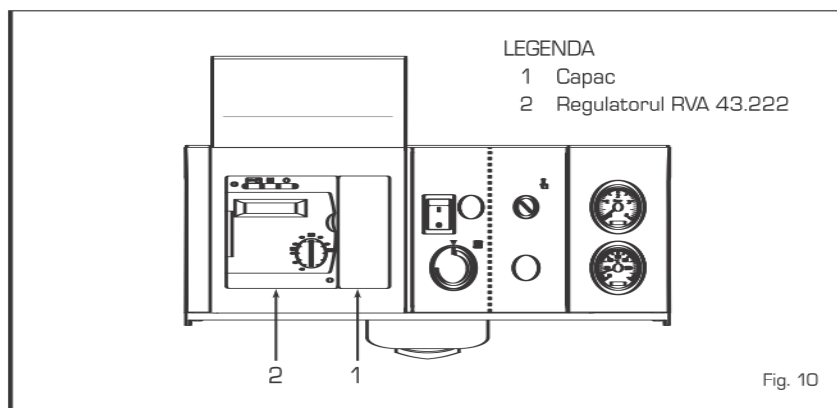

Fig. 10
2.8 MONTAREA REGULATORULUI CLIMATIC RVA 43.222 (fig. 10)